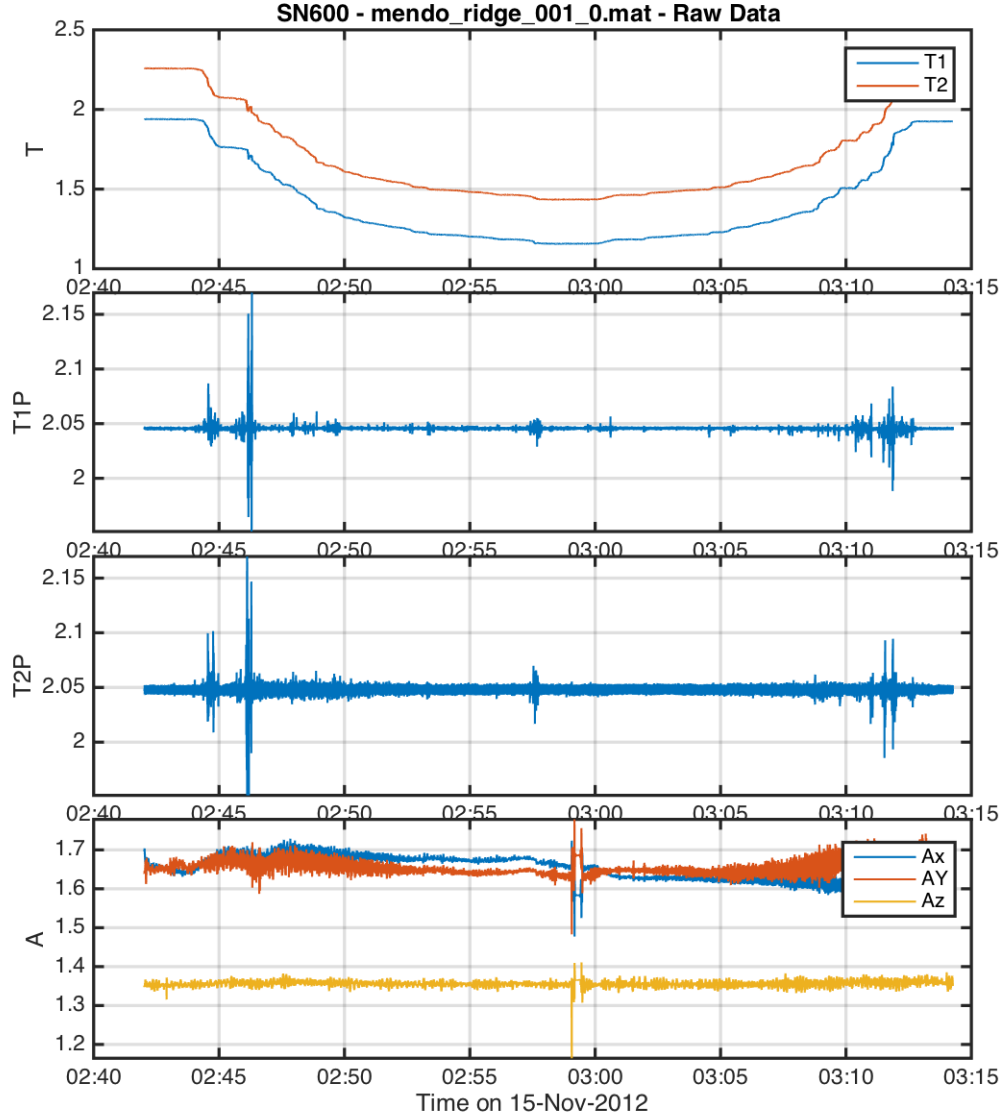

Figure 1: Time-series of raw χ pod data for one cast.
- cast_001_RawChipodTS (Figure 1).